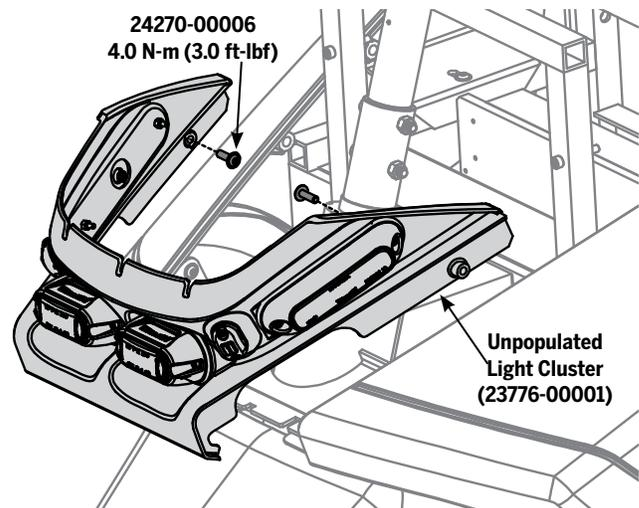

Figure 23: Light Cluster
3. Using a 4 mm hex wrench, remove the two fasteners as shown in **Figure 23**.
3. Using a 4 mm hex wrench, install the two fasteners as shown in **Figure 23**. Torque to **4.0 N-m (3.0 ft-lbf)**.